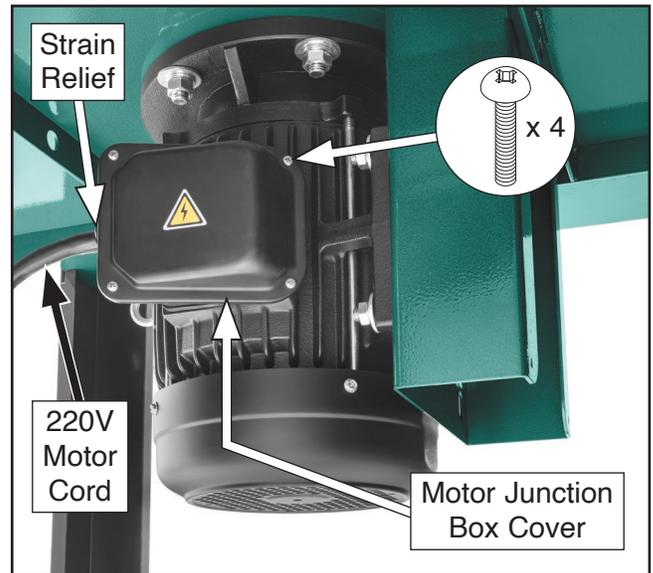

Figure 18. Location of motor components.
- Remove (4) fasteners securing motor junction box cover, and loosen strain relief securing 220V motor cord (see **Figure 18**).